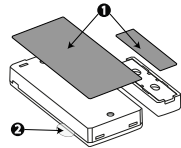

Figure 2: Quick installation 1: Double-sided adhesive tape 2: Enrollment / battery tab
- 1. Peel the release liners off the two strips of double-sided adhesive tape and attach the tape to the back of the device and the magnet. See Figure 2.